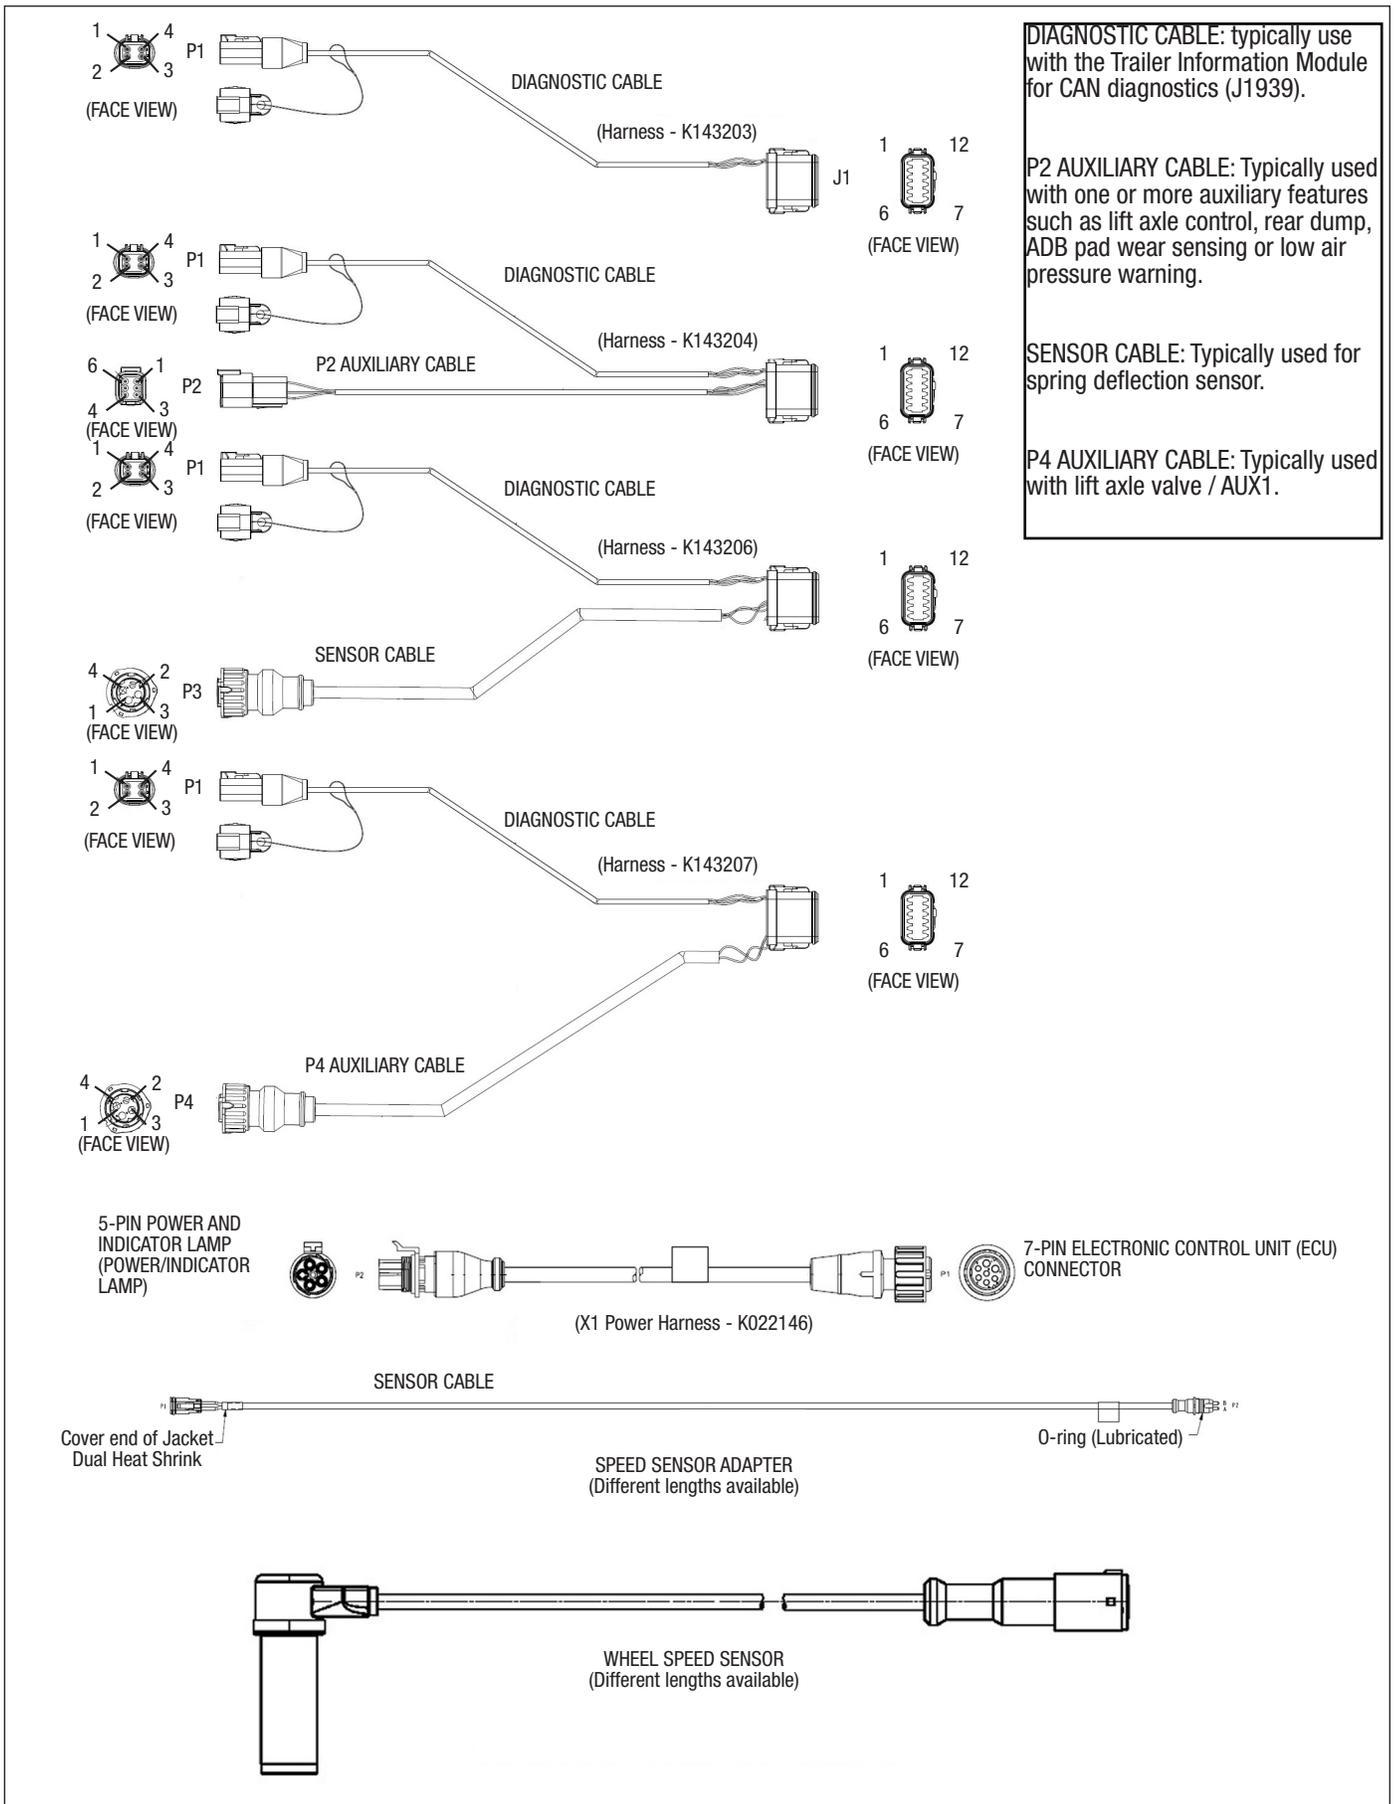

Figure 6 – Examples of Pigtail Wire Harnesses
- **Pigtail Wiring Harness:** A power pigtail harness is required. Auxiliary harnesses are available, as needed. See Figure 6.
See Figure 6. Several pigtail wire harnesses are available to connect the TABS-6 Advanced MC module with other trailer system components. Pigtail harnesses are weather-sealed at the connector interface and are clearly labeled for proper installation. Because of the over-molded design of the wiring harnesses, Bendix recommends that if damage or corrosion occurs, the complete harness be replaced.
See Figure 6.